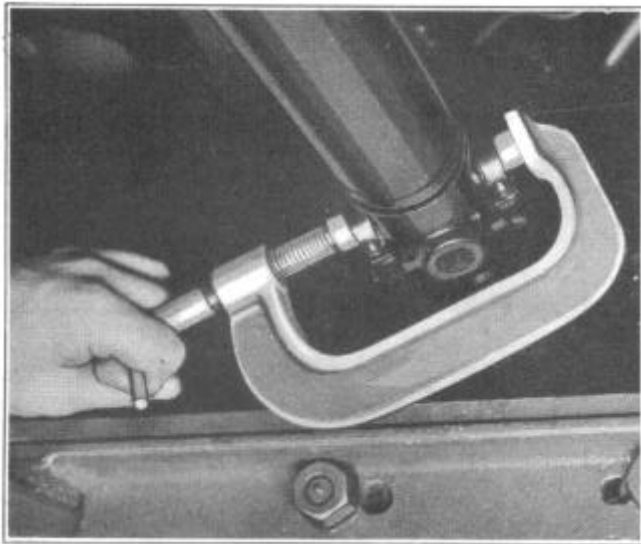

FIGURE 2
6. Install the other two bearing assemblies on the journal and compress them with the universal joint assembling Tool J-881-A, Figure 2.